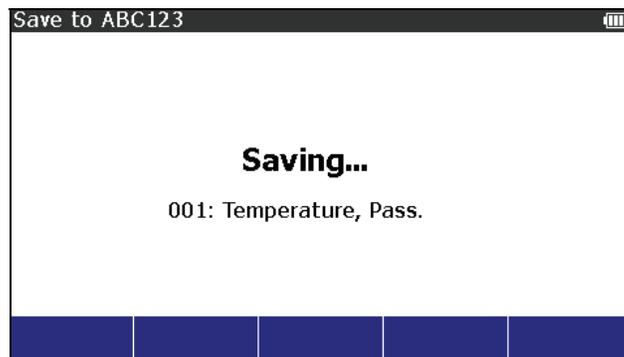

Figure 57. Saving Screen
5. Test results are saved with a Pass or Fail prefix in their label. Push the **Save as Pass** or the **Save as Fail** softkey. The saving screen in Figure 57 shows in the display.